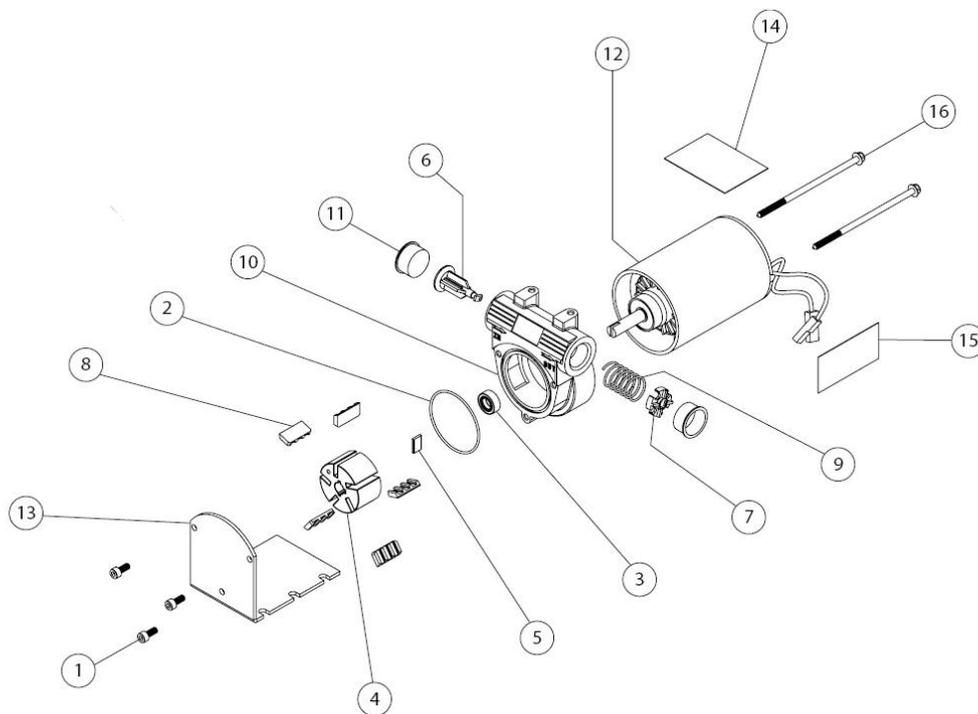

Figure 5 ECOKIT 12/24 - 40
D. MAINTENANCE (SEE FIGURES 5, 6 & 7)
E. OPERATIONAL PROBLEMS (SEE FIGURES 5, 6 & 7)
F. REPAIR KITS (SEE FIGURE 5)
ECOKIT 12/24 - 40 (FIG 5)